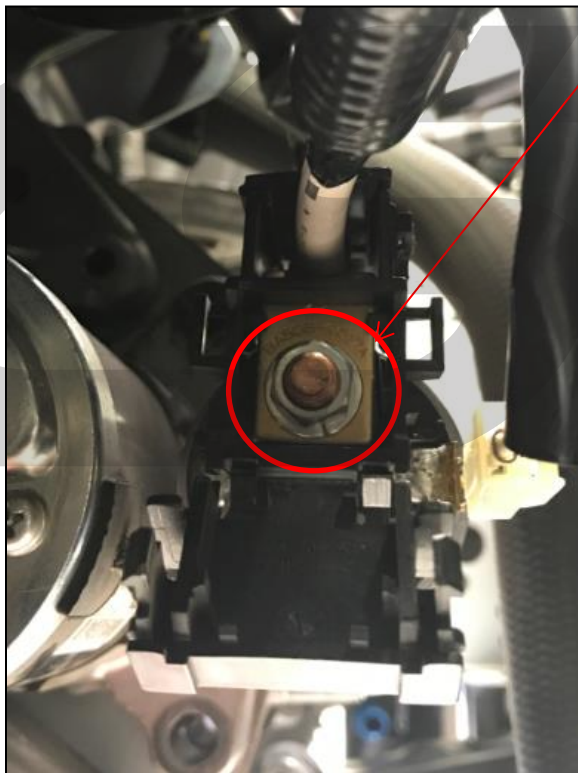

Figure 2c
- d) Use a 12mm socket to remove the power wire nut **circle in red** in **Figure 2c**. Remove the power wire from the starter.